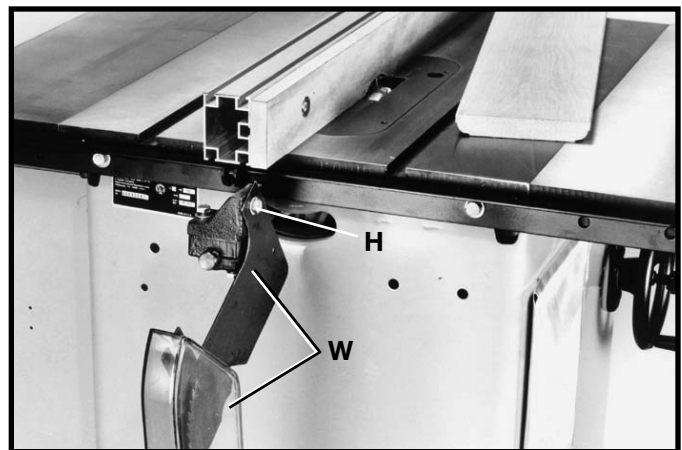

Fig. 133
IMPORTANT: For certain cutting operations (dadoing and moulding) where the workpiece is not cut completely through, the blade guard and splitter assembly cannot be used. Loosen screws (G) and (H) Fig. 132. Lift up and swing blade guard and splitter assembly (W) Fig. 133 to the rear of the saw and retighten (H). **CAUTION:** Always return and fasten the blade guard and splitter assembly to its proper operating position for normal thru-sawing operations as shown in Fig. 32 and 33.